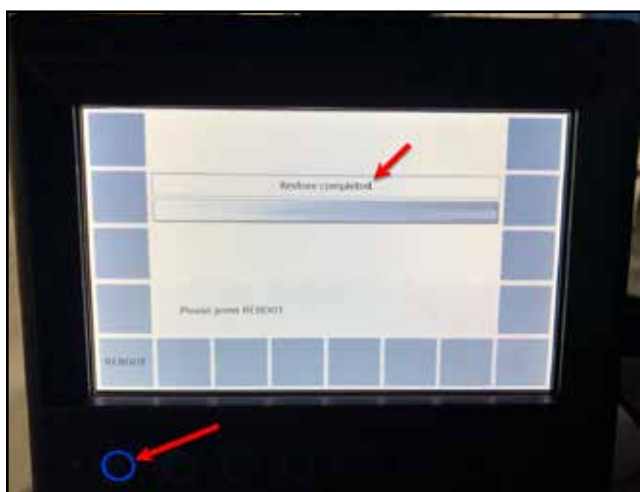

Figure 17
9. Once the loading process completes, the screen will display "Restore Complete." Press the "REBOOT" button to complete the process. See Figure 17.